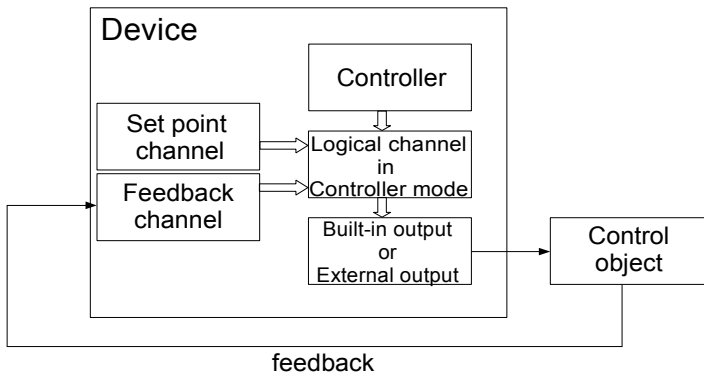
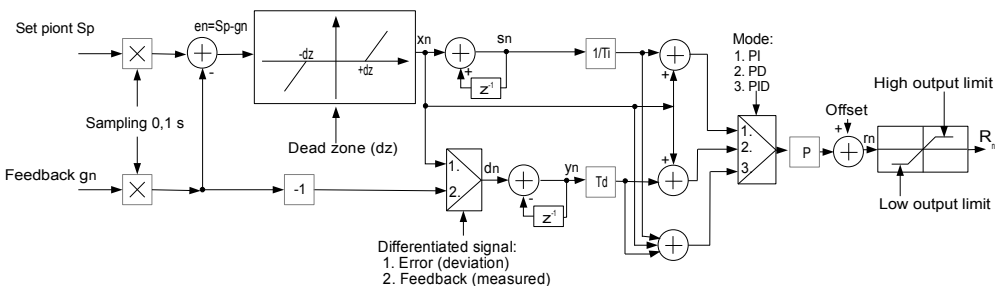

Fig. 7.93. Block diagram of the control loop of the object by MultiCon
Fig. 7.94. Block diagram of the **Controller** implemented in the device
- **Differentiated signal** - this parameter is available for **PD** and **PID** mode and allows the selection of the option (see Fig. 7.93 and Fig. 7.94):
In Fig. 7.93 shows the block diagram of a control process of an object with the **Controller** implemented in the device. Set the setting of the selected Controller to be connected to the **Logical channel** operating in the **Controller** mode. In this **Logical channel**, select a **Set point channel** and the **Feedback channel**, which store the data required to control the object. Respectively, **Set point channel** contains a destination value of the process, while the **Feedback channel** includes the value of feedback coming from the object controlled. MultiCon uses data collected from these channels and the corresponding Controller controls the object.